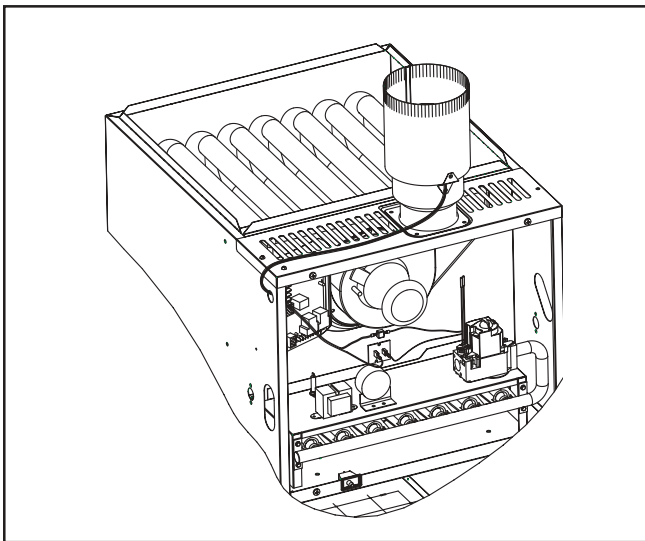

Figure 4.
6. Route the wire harness from the chimney kit through the low voltage hole, into the furnace cabinet. (See Figure 4)